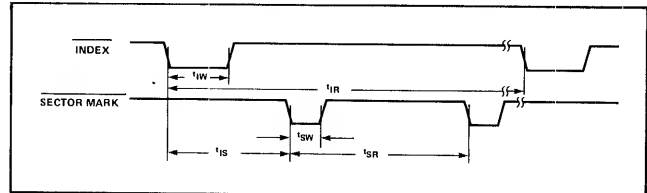

Figure 3-35. INDEX and SECTOR MARK Timing
4. **INDEX AND SECTOR MARK Timing** INDEX and SECTOR MARK timing is shown in Figure 3-35. The AC characteristics are listed in Table 3-11.